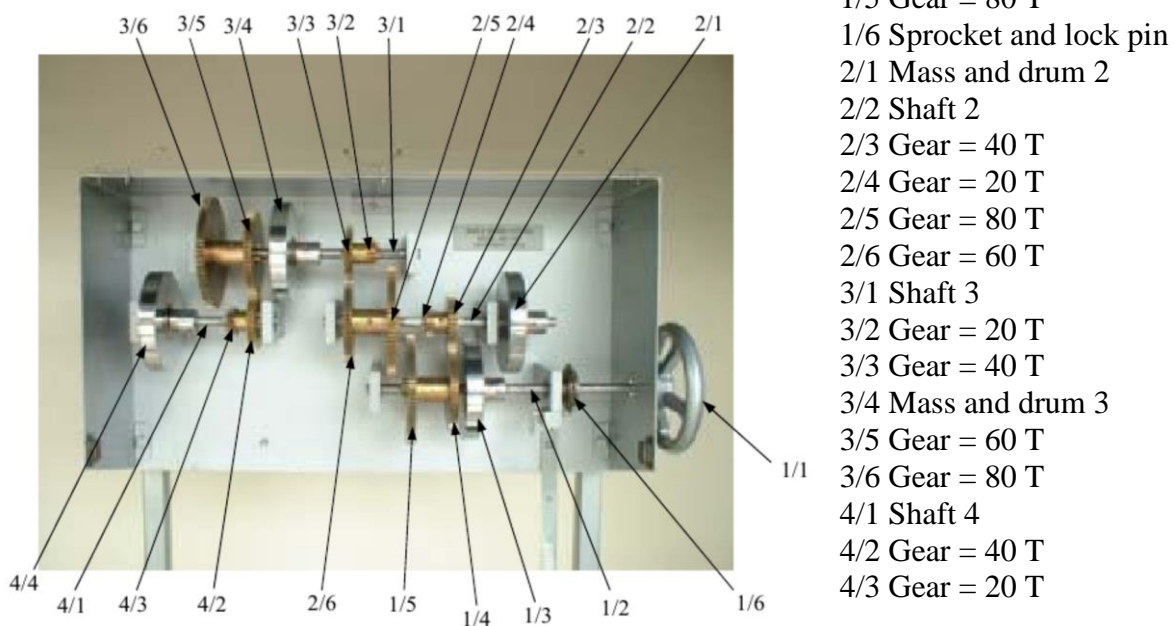

Figure 8.3-1: Detailed description of compound gear train.
- The compound gear train system as shown in Figure 8.3-1.